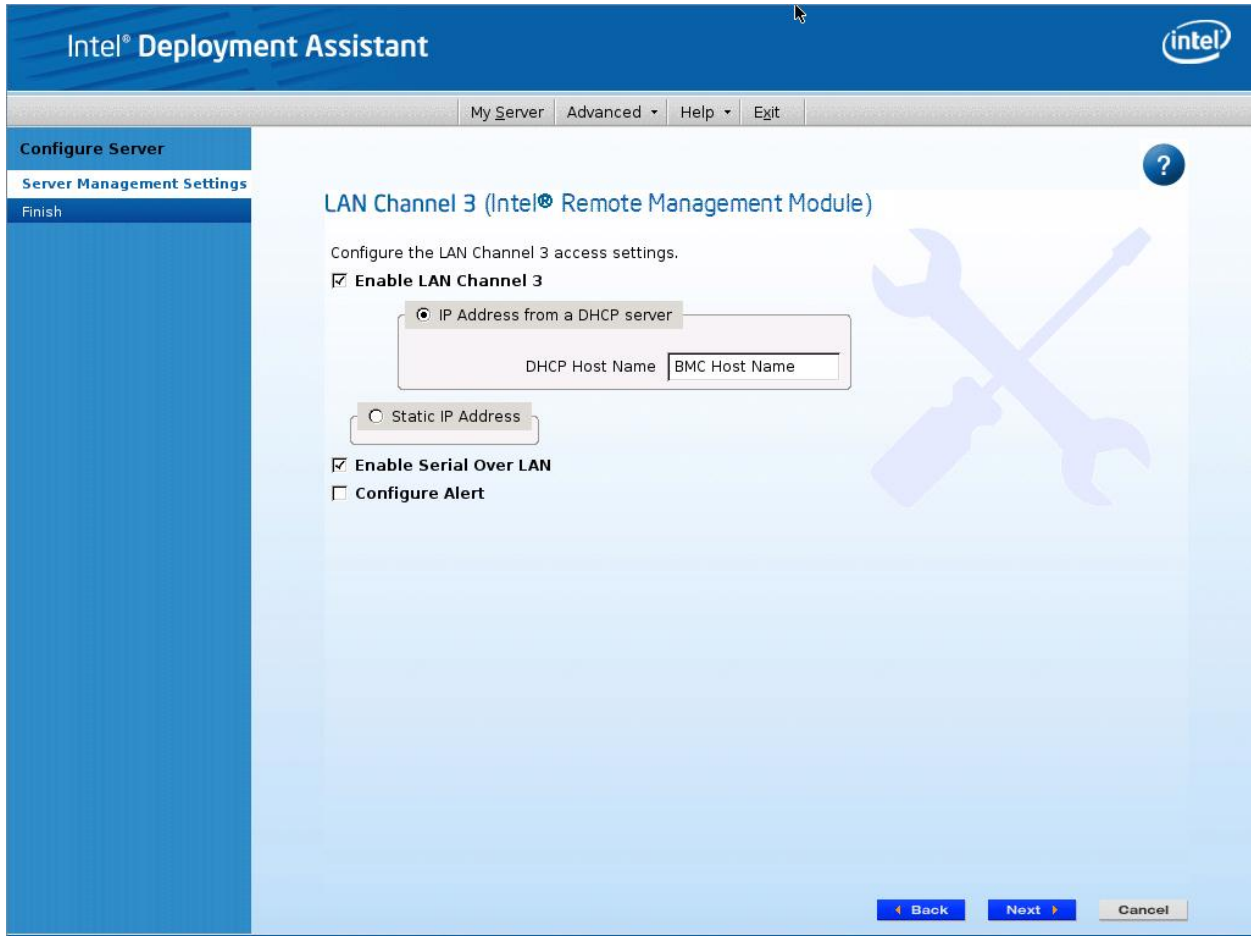

Figure 23: IDA Configure Server: Configure LAN Channel 3 (Intel® RMM4 DMN) IP Address from a DHCP server window
- a. If **IP Address from a DHCP Server** is selected configure the **DHCP Host Name** as shown in Figure 23.